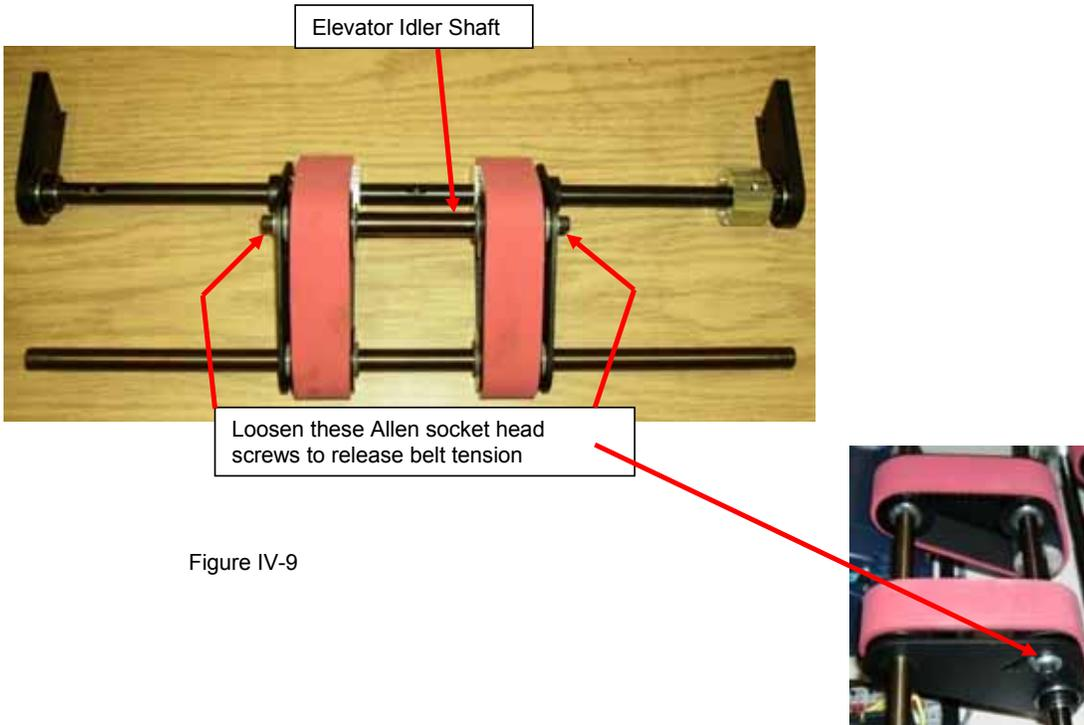

Figure IV-9
6. Loosen Allen socket head screws from both ends of elevator idler shaft and move shaft ends in slots to release belt tension. See figure IV-9.